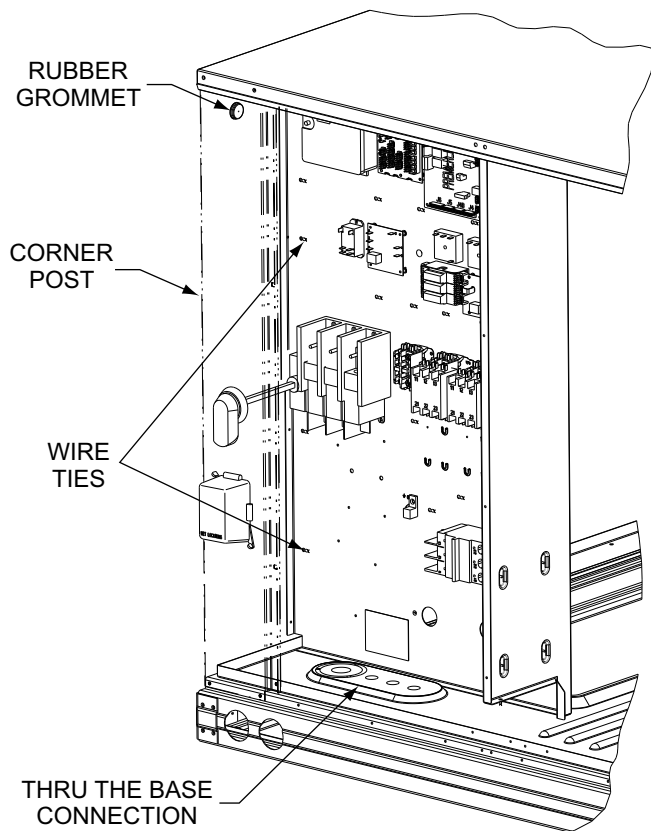

Fig. 50 — Field Control Wiring Raceway
Correctly rated low voltage wire can be routed through the rubber grommet located on the corner post adjacent to the control box access panel. Route wire through the grommet and then route the wire behind the corner post utilizing the factory provided wire ties secured to the control box. This will ensure separation of the field low voltage wire and the high voltage circuit. Route the low voltage wire to the central terminal board. See Fig. 50.
2. Feed wires through the raceway built into the corner post (see Fig. 50) to the 24-v barrier located on the left side of the control box. The raceway provides the UL-required clearance between high-voltage and low-voltage wiring.